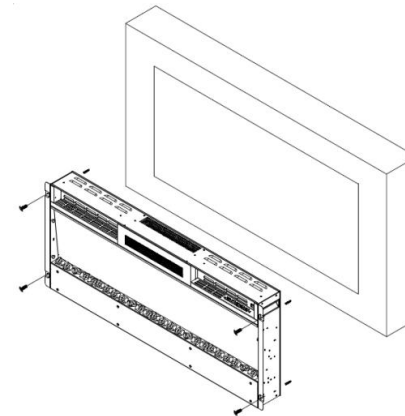

Fig.3
- For optimum viewing, mark the left and right screws ( fixing positions on the wall in accordance with the appliance's holes; See Fig.3
- Place the front glass surround over the front of the fire aligning the slots in the bracket at each side of the glass panel with the lugs on the sides of the fire; See Fig.3